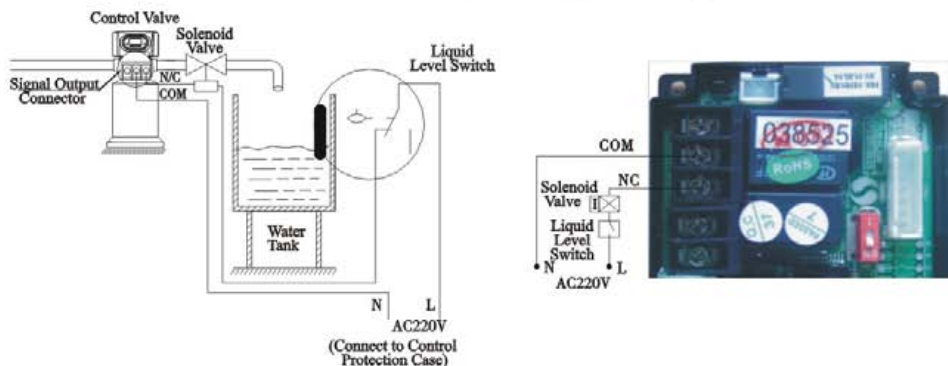

Figure3-1 Wring of Solenoid Valve on Outlet
① Solenoid valve on outlet controls water level in brine tank. Instruction: If system strictly require no hard water flow from outlet in regeneration cycle(mainly for no hard water flow out when valve is switching or valve in backwash or brine drawing positions), a solenoid valve could be installed on outlet, the wiring refer to Figure 3-1.